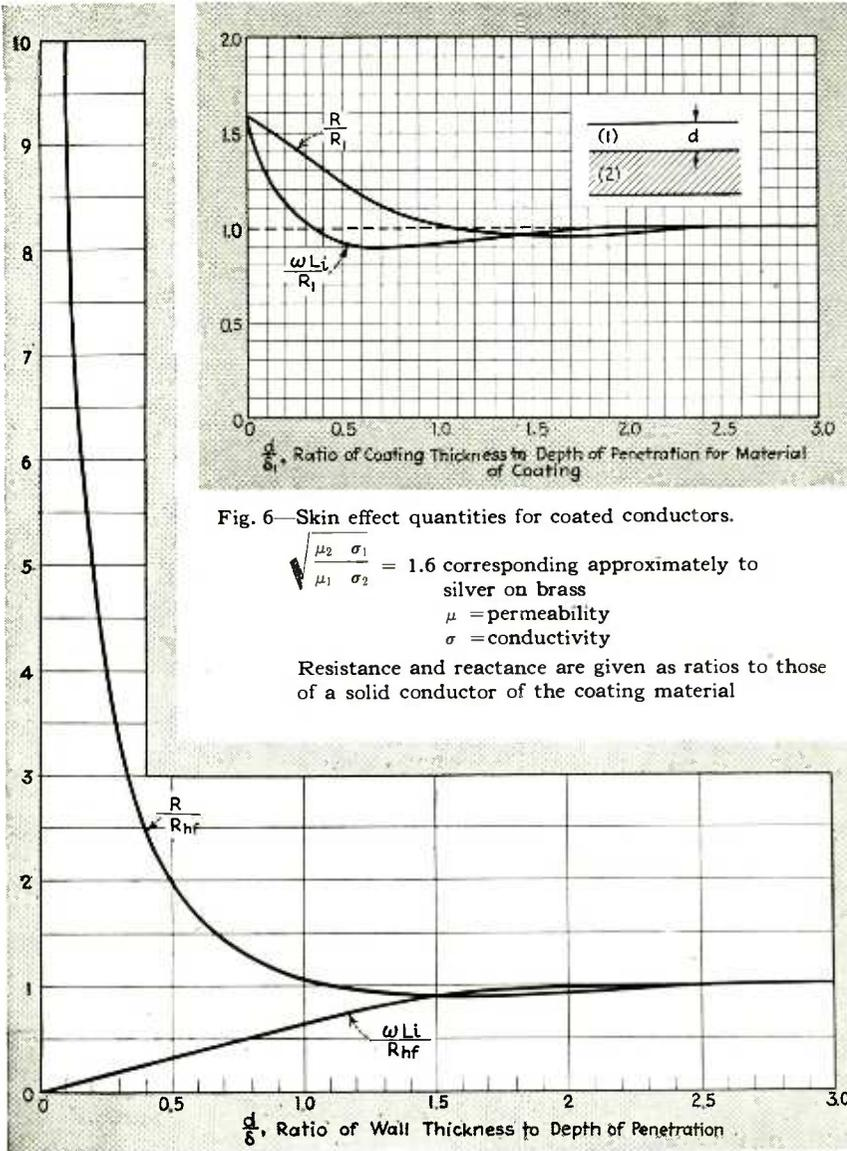
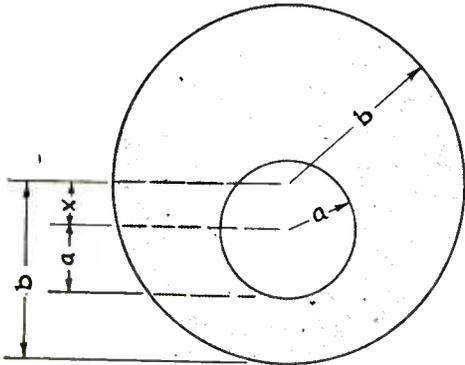

Fig. 6—Skin effect quantities for coated conductors.
Fig. 1—Configuration of eccentric transmission line with inner conductor displaced by amount  $x$
$\delta_1$  is given by Eq. (1) or Fig. 1.
Curves are plotted in Figs. 6, 7, and 8 as functions of the ratio of coating thickness to depth of penetration, for values of  $\frac{R_{s2}}{R_{s1}} = 1.6, 0.34, \text{ and } 5$ . These correspond approximately to silver coating on brass, solder coating on copper, and copper coating on iron or Fernico. It is seen that in all cases when coating thickness is equal to or greater than the depth of penetration,  $\delta_1$ , for the material of the coating (obtained from Eq. 1 or Fig. 1), the composite conductor is nearly as good, or as bad, as though the conductor were made entirely of the coating material.
$R_2$  given by Eq. (2) or Fig. 1.
It is of interest to find that the first order corrections are independent of conductivity of the coating. For any practical cases ( $d/\lambda$  small and  $R_{s2}$  less than one, as shown by Fig. 1) the correction to resistance is always small, but the correction to internal reactance may be very large since the coating may be much thicker than depth of penetration in the coated conductor, and so may contain much more magnetic flux than the coated conductor.
If there is no insulation present in the transmission line, we may use  $v = 3 \times 10^{10}$  cm per second, and compute  $C$  from the static capacitance between conductors. The configuration in which we are interested is shown in Fig. 1. The radius of the outer conductor is  $b$ , the radius of the inner conductor is  $a$ , while the axis of the inner conductor is displaced an amount  $x$  from the axis of the outer conductor. The capacitance of this configuration is1